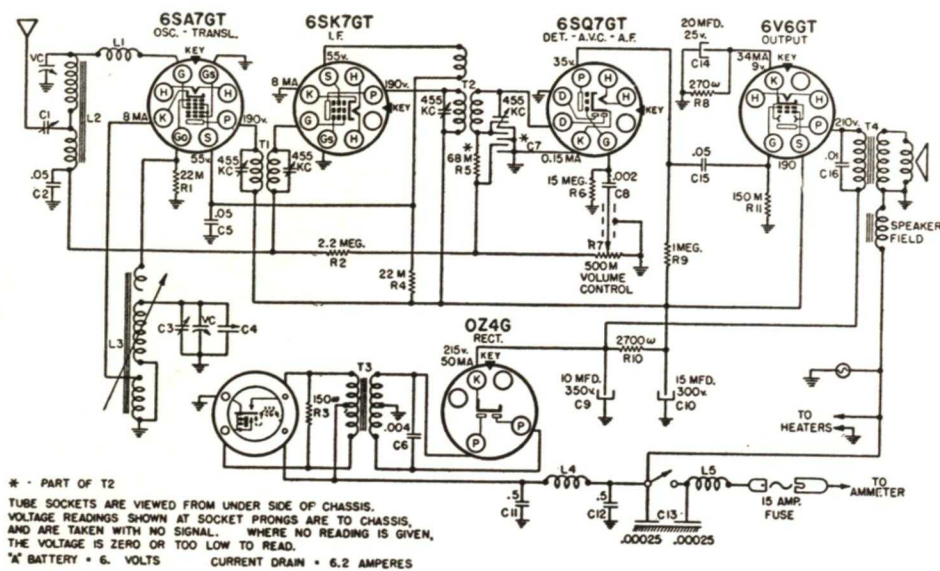

FIG. 35. Wiring diagram of the Silvertone Model 7091, having features found in many auto sets.
► A typical auto set diagram is shown in Fig. 35, and the parts layout is shown in Fig. 36. This particular receiver does not use an r.f. stage at the input of the receiver, but does have regeneration introduced in the i.f. stage to increase the sensitivity. The screen grid lead is coupled by a small coil to transformer T_2 in such a manner that regeneration occurs.
FIG. 36. Parts layout for the set shown in Fig. 35. These layouts are helpful on auto sets, where the crowded layout makes parts identification somewhat more difficult.